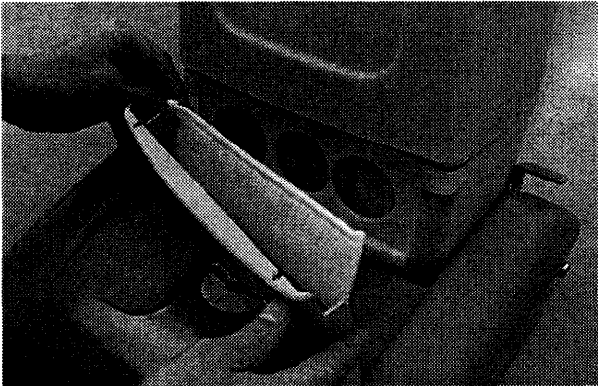

FIG. 14
2. Remove exhaust cover and inspect exhaust filter (Figure 14). Replace filter if needed.